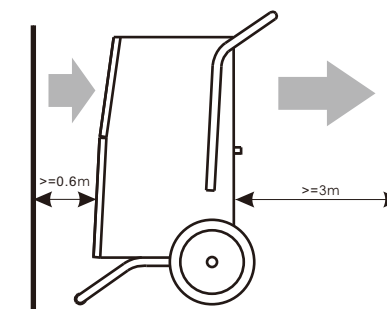

FIG. 2
- In order to get the best efficiency, the suggested minimum distances of both air suction and discharge sides from walls are 0.6 and 3m respectively (See FIG.2).